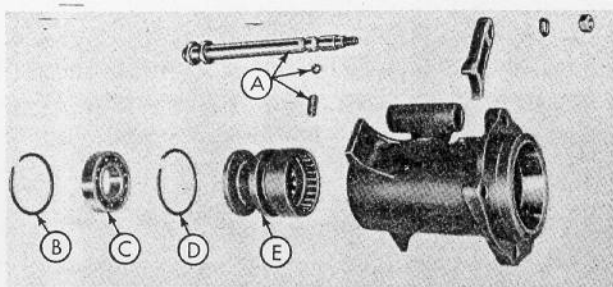

Fig. 14
- a. Remove the shift rail, interlock ball and spring (A-Figure 14).
- b. Remove the snap ring (B-Figure 14) from the rear of bearing support.
- c. Lift out the bearing (C-Figure 14).
- d. Remove the snap ring (D-Figure 14) which is located in front of the rear bearing.
- e. Remove the clutch sleeve (E-Figure 14) from the bearing support.